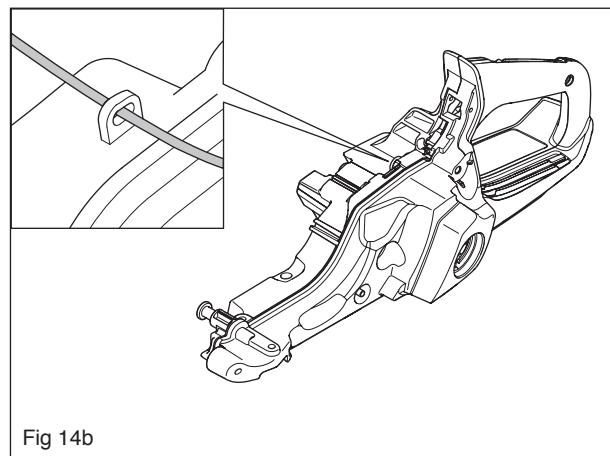
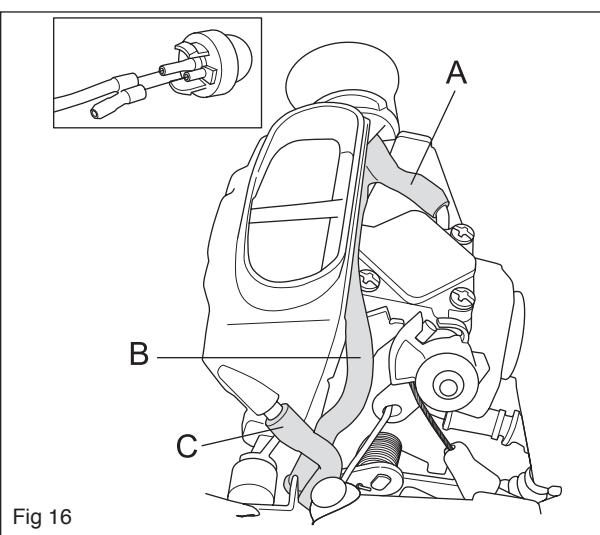
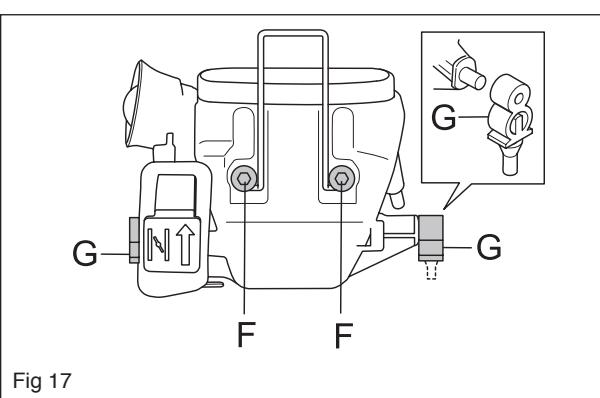
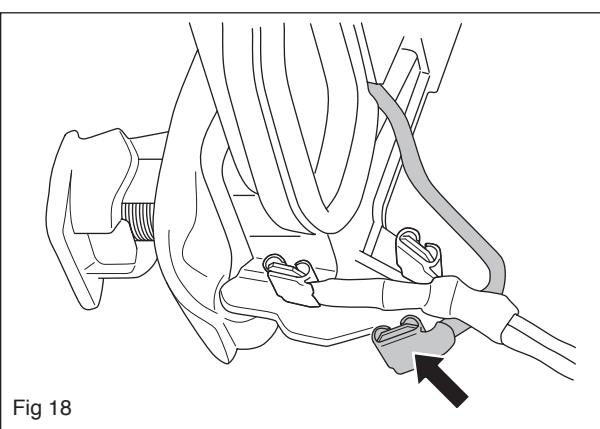

Fig 14b
Fig 16
Fig 17
Fig 18
Loosen the return hose B and the tank bleeding hose C. See Figure 16. Loosen the fuel tank's rear mounting bracket, i.e. the rear vibration element (D). Loosen the screw F as outlined in Figure 14 a and remove the limiter cap band. Lower the tank as much as possible to access the attachment for the generator cable on the tank. See Figure 14b.
Loosen the pressure hose A, the return hose B and the tank bleeding hose C. See Figure 16.
Loosen screws F and unhook the rubber mounting G on both sides of the air filter holder. See Figure 17.
Loosen the cable to the carburettor's heating element. See Figure 18.
Connect the cable to the carburettor's heating element as outlined in Figure 18. Fit the filter holder as outlined in Figure 17 and tighten screws F. Attach the hoses as outlined in Figure 16.